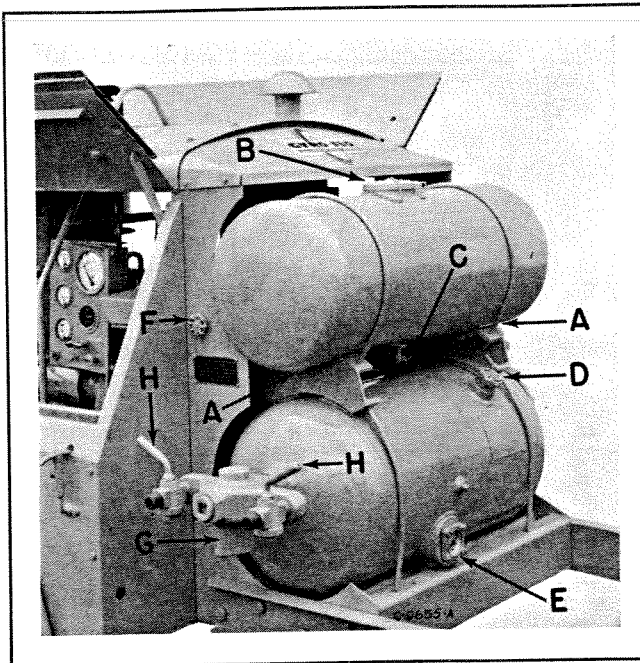

Fig. 6—Rear View of Compressor showing Receiver-Separator and Service Fittings.
AIR RECEIVER-OIL SEPARATOR (Figs. 6, 10 and 13)
The following "call-outs" are referenced on Fig. 6.
6. Insure there is no air pressure in the receiver-separator system, either by observing the pressure gauge or by opening the manual blowdown valve. (See paragraph on "Stopping" and "F", Fig. 6).